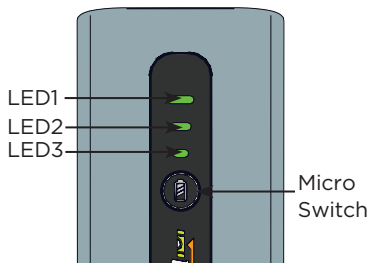

Figure 6
4. Check the fuel gauge status of the Li-ion battery. Press the micro switch on the battery. Note which LEDs light up. See the table below to determine the power status of the battery. The LEDs will turn off after three seconds. (Figure 6)